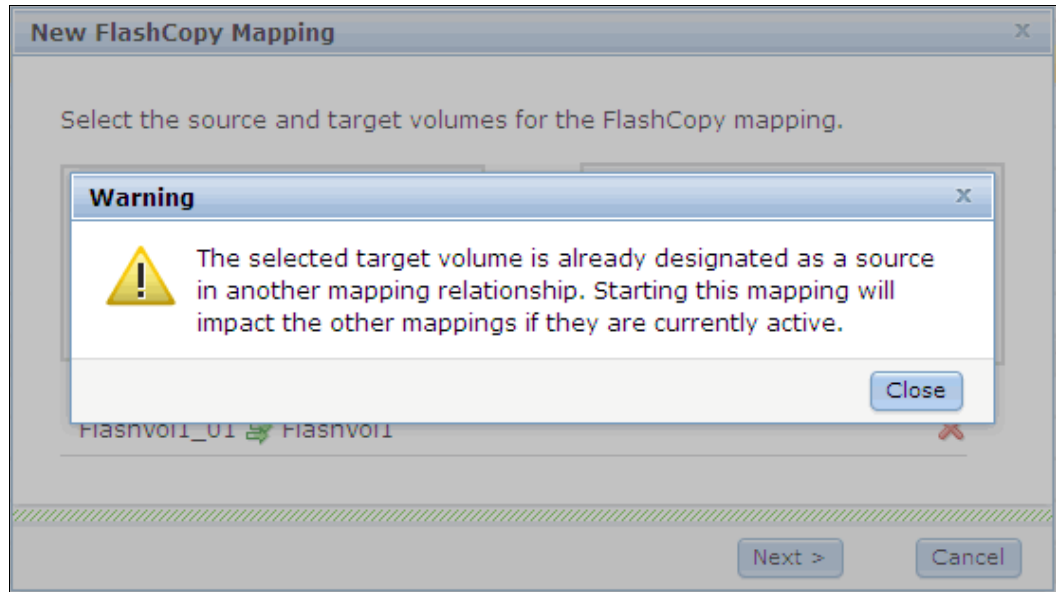

Figure 10-47 Flash restore warning
- Click **Add**. A warning message appears, as shown in Figure 10-47. Click **Close**. This message is shown because we are using a source as a target.